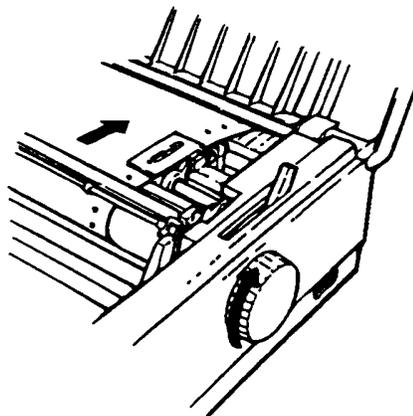

Figure 8-7. Paper Installed and Main Tractor Covers Closed
10. Close the main tractor covers, and advance the paper to the printing position. See Figure 8-7.